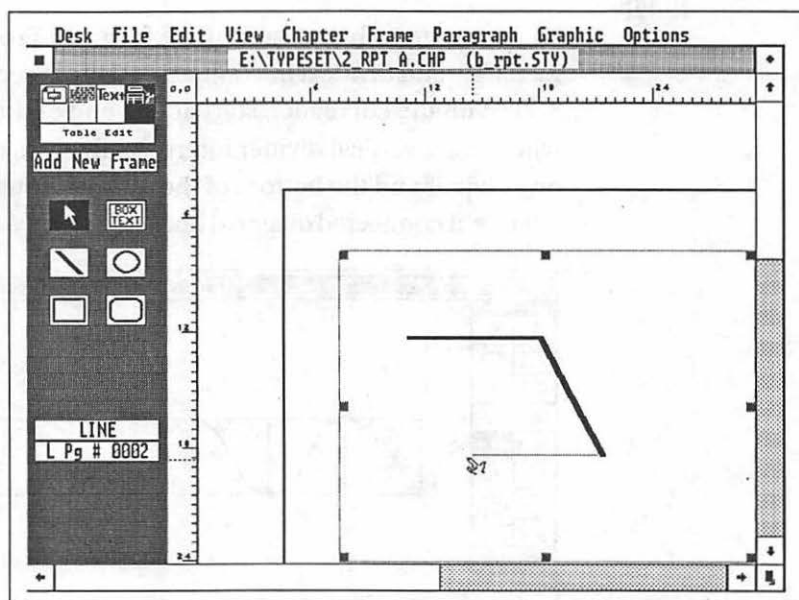

FIGURE 3-8 You can create a series of connected lines in Ventura Publisher by using the Copy and Paste functions.
2. Grab the handle at one end of the line you just drew and swing it to a new position. The other end of the line, which remains anchored, becomes the axis around which the line sweeps, like the hand of a clock (Figure 3-8).